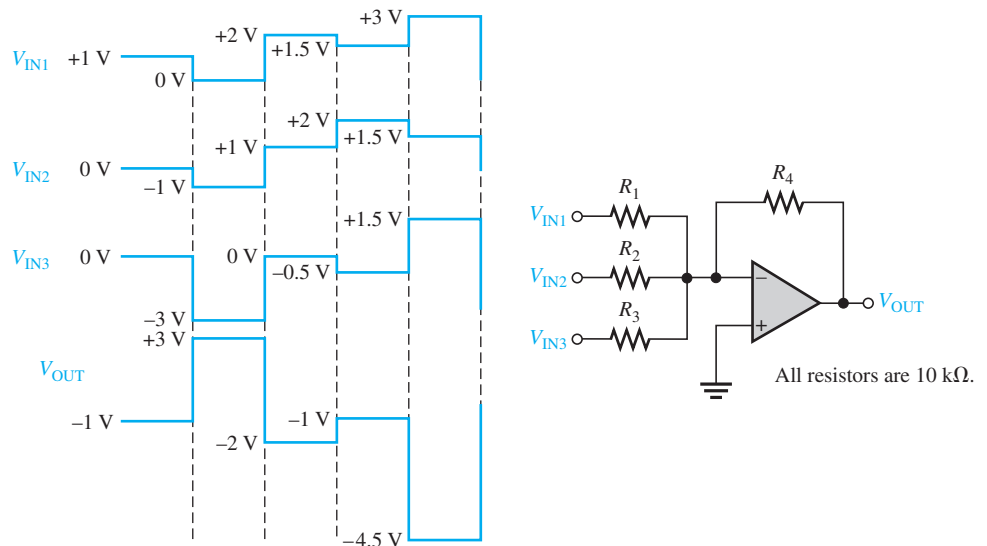

FIGURE 8-58
24. The sequences of voltage levels shown in Figure 8-58 are applied to the summing amplifier and the indicated output is observed. First, determine if this output is correct. If it is not correct, determine the fault.